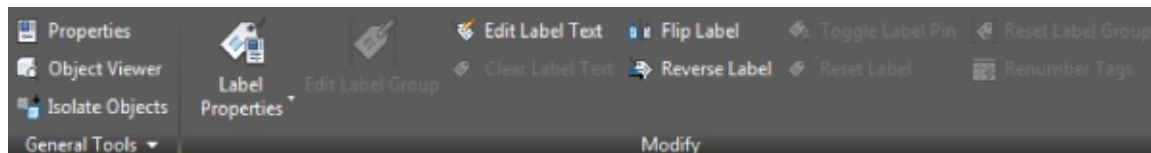

Figure 5.61 The Parcel Segment Label contextual tab
4. On the Labels – Parcel Segment Label contextual tab ► Modify panel, click Flip Label, as shown in Figure 5.61.